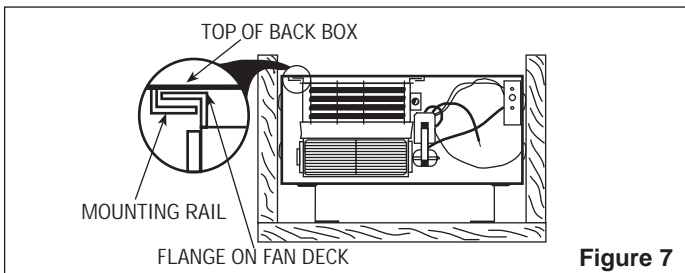

Figure 7
- Insert flanges on fan deck into mounting rails and slide back until fan deck stops (see Fig. 7).